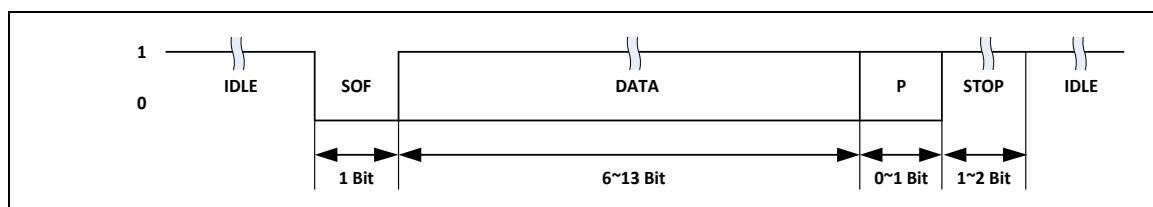

Figure 6.13-3 UART Standard Frame Format
- A standard UART frame is shown in Figure 6.13-3. It consists of:
- A parity bit (P), programmable for either even or odd parity. It is optionally possible to handle frames without parity bit.